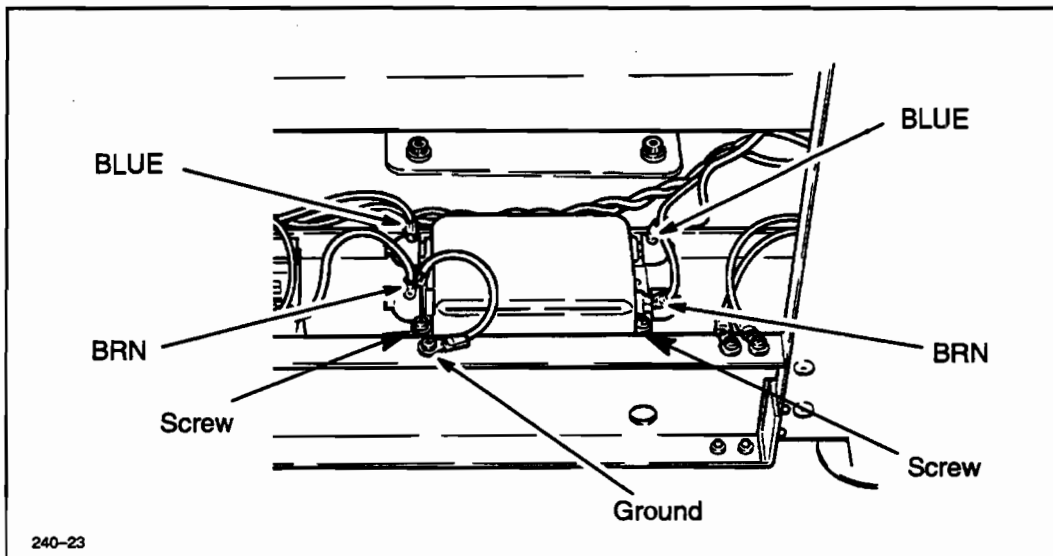

Figure 6-19. Noise Filter (NF1) Removal (Models 240D/E and 250/255)
1. Switch the plotter OFF (O) and disconnect the ac power cord and interface cable.
4. Note the orientation of the wires for reconnection. See Figure 6-19.
7. Remove the four noise filter mounting screws at the base. See Figure 6-19.